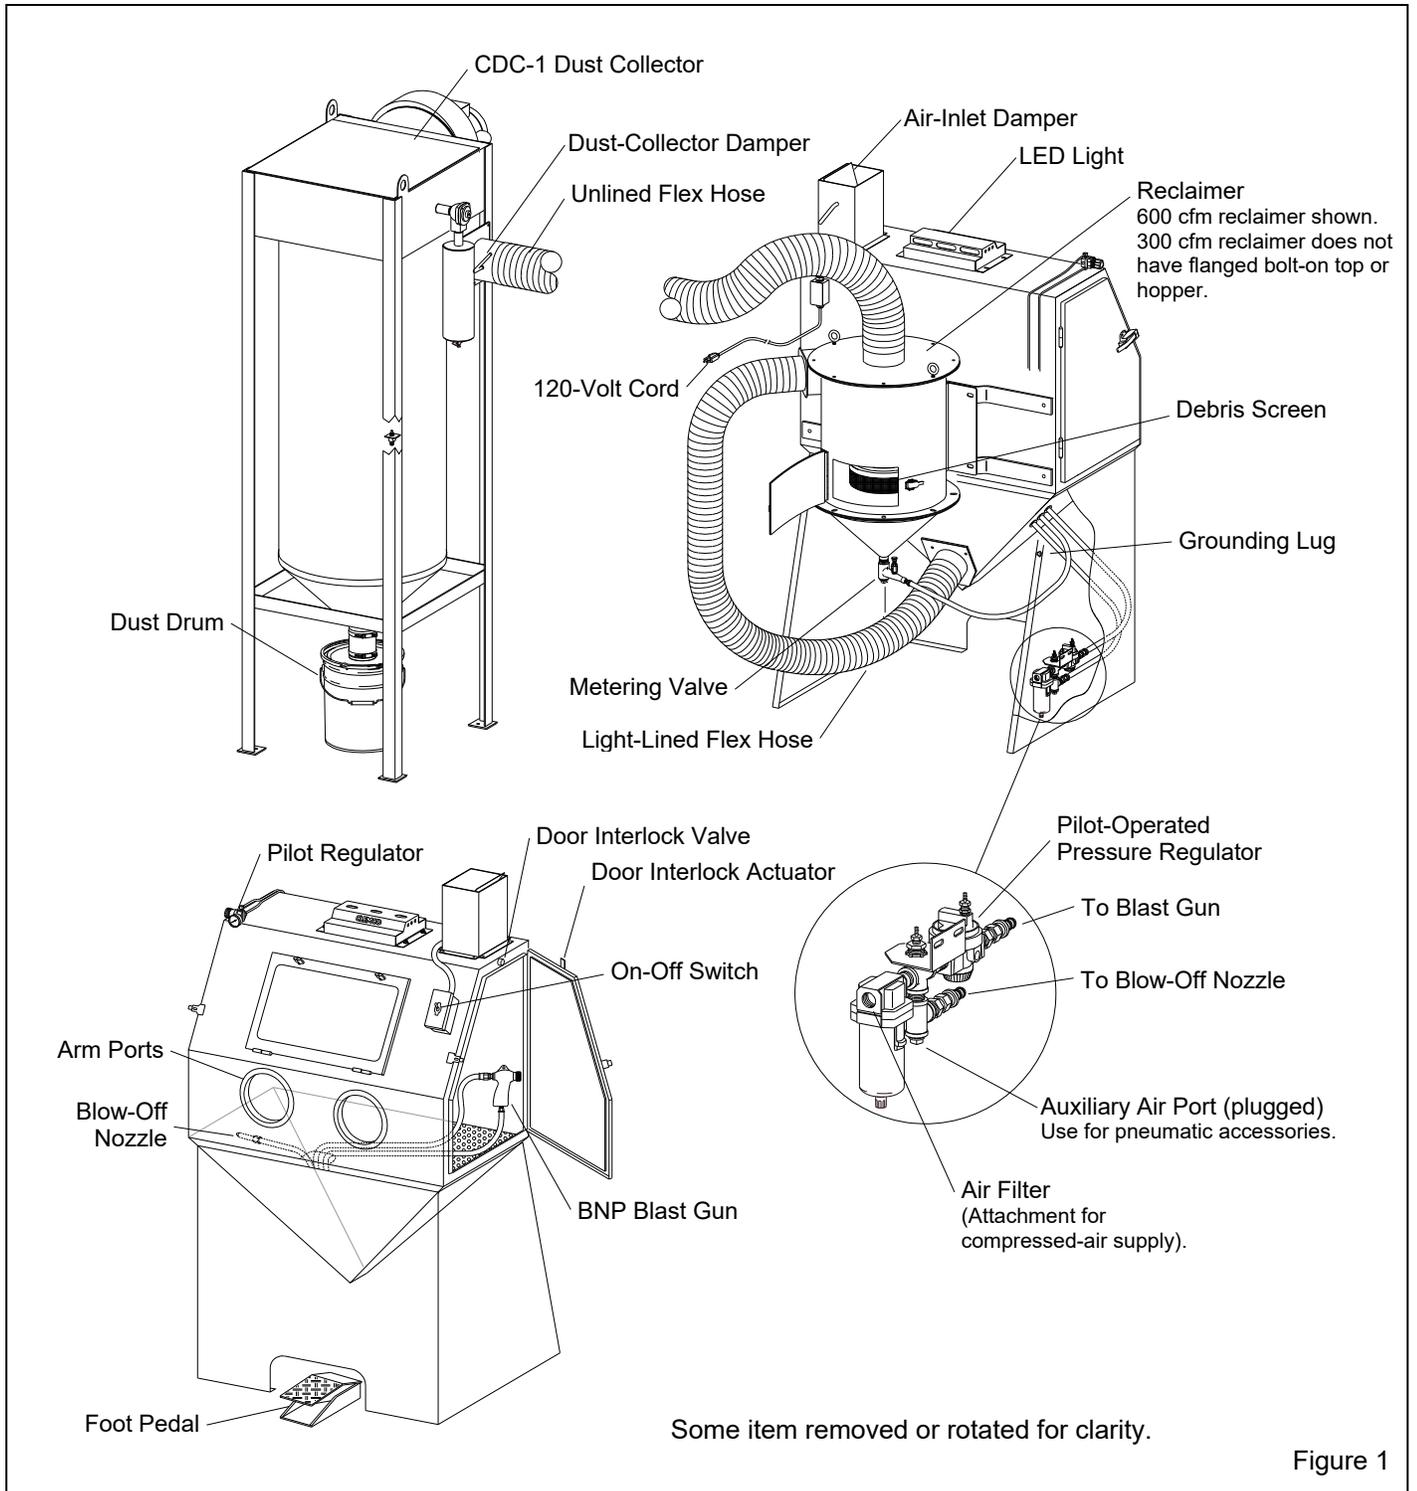

Figure 1
Refer to Figure 1 for arrangement of components with a CDC-1 Dust Collector. Figure 2 shows the arrangement with a RPC-2 600 cfm (not available in 300 cfm) Reverse-Pulse Dust Collector with dust drawer. To upgraded, an RPC-2 collector may be added at any time.
1.6.1 CDC-1 Dust Collector: Shown in Figure 1, the collector is available in 300 and 600 models. The single filter cartridge is cleaned by using a manually-controlled pulse of compressed air. Dust collects in a 5-gallon dust drum and must be frequently emptied. CDC-1 Dust Collectors are standard with BNP cabinets unless an optional RPC-2 Dust Collector is ordered at time of purchase. Refer to manual number 28225 for operation of the CDC-1 Dust Collector.
2.1.1 Refer to Figure 1 (and Figure 2 for optional RPC-2 Dust Collector) for the general arrangement. Place all components in a convenient location where compressed air and electrical service are available. The cabinet location must comply with OSHA and local safety codes. Allow for full access to all doors and service areas, and for efficient handling of large parts. Provide enough clearance at the dust collector to do maintenance and to remove the dust container. Determine the best location for all components and position them before making compressed air connections, electrical connections, and attaching flex hose.